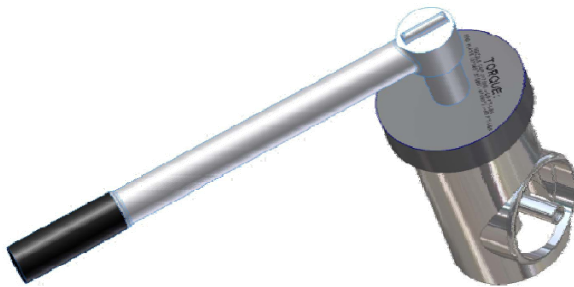

Figure 14
1. *Reverse process as stated above with the additional observance of using a torque wrench as shown in Figure 14 to attach position 41.3 to position 15.*